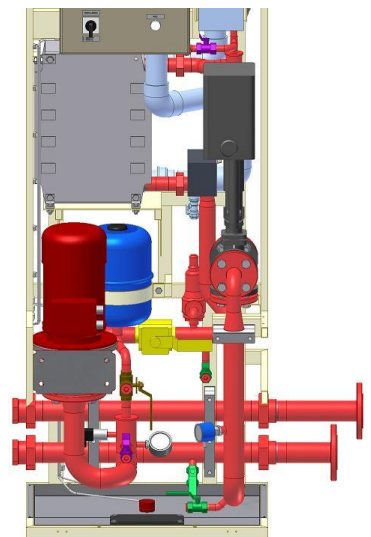

Figure 3.1-8
- Valves V161...V162 open (violet colour in Figure 3.1-8)
- Valve V160 lever down (brown colour in Figure 3.1-8)
- Valve V140 closed (yellow colour in Figure 3.1-8)
- Valves V210...V212 closed (green colour in Figure 3.1-8)